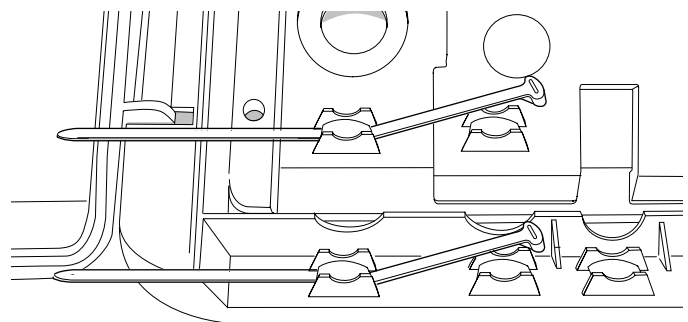

Figure 9
**6.3** Insert two cable ties into the NID's lower left cable entry (Figure 9).